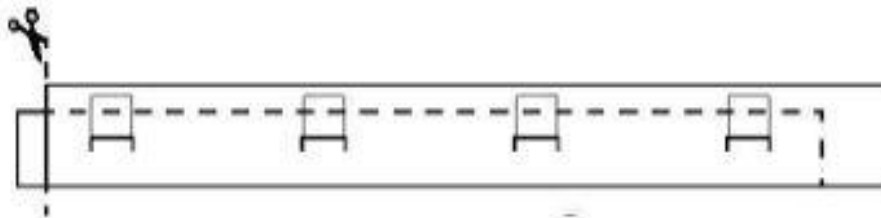

Figure 2
2. Before starting run, cut the male end off the blanket. **See Figure 2**